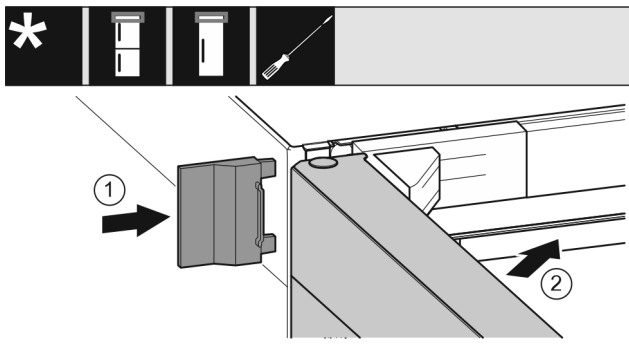

Fig. 21
- Slide on the outer cover. Fig. 21 (1)
- Close the upper door. Fig. 21 (2)